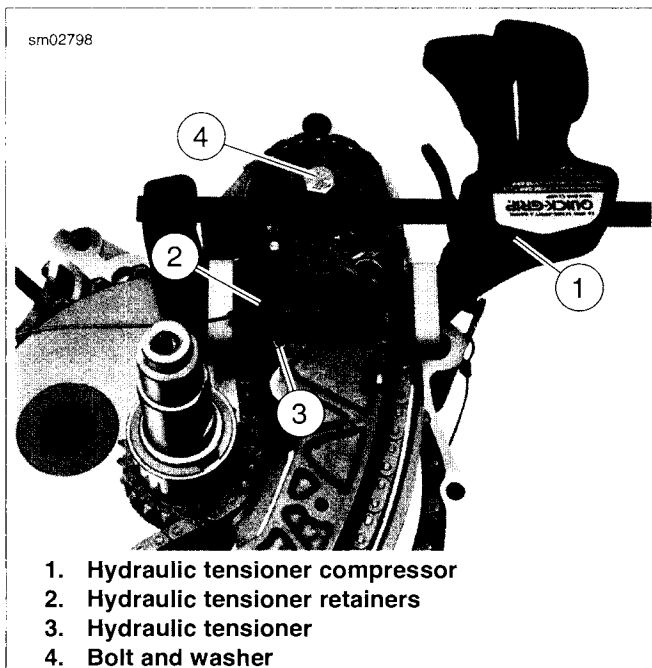
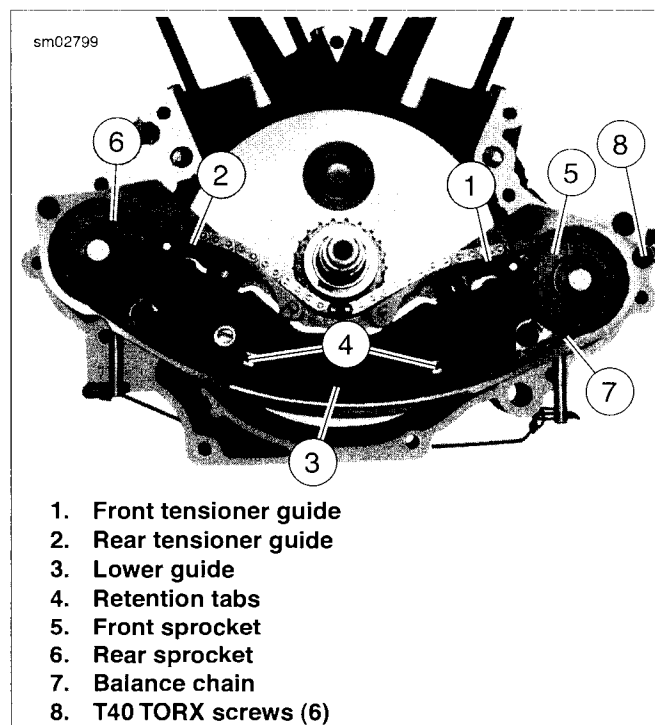

Figure 3-60. Hydraulic Tensioner Tools (Front Tensioner Shown)
Figure 3-61. Chain Tensioner Guides
2. See Figure 3-60. Compress both hydraulic tensioners.
- a. Clamp rubber tip of HYDRAULIC TENSIONER COMPRESSOR (Part No. HD-44063) (1) over balance chain and bottom of chain guide bracket assembly.
- c. Slide HYDRAULIC TENSIONER RETAINERS (Part No. HD-44408) over lip of tensioner (3).
- d. Release pressure on tool (1) and remove.
4. See Figure 3-61. Pry tab on front tensioner guide (1) clear of locking post. Use a small screwdriver to pry front chain tensioner guide upward from locking post. Repeat procedure on rear chain tensioner guide (2).
5. Pry lower chain tensioner guide (3) away from chain guide bracket assembly. Note the two retention tabs (4) on the lower chain tensioner guide which must be freed.
6. See Figure 3-60. Remove the bolts and washers (4) on the front and rear balance shafts.
7. See Figure 3-61. Remove front (5) and rear (6) sprockets from chain guide bracket assembly to release balance chain (7). Remove spacers from front and rear balance shafts.
8. Remove six T40 TORX screws (8) from balance shaft housing to free chain guide bracket assembly.
- a. Obtain chain tensioner guide (1) labeled "F" for front. With label facing away from chain guide bracket, install guide on post by pushing down until guide snaps into place.
- b. Obtain chain tensioner guide (2) labeled "R" for rear. With label facing away from chain guide bracket, install guide on post by pushing down until guide snaps into place.
- c. Install lower chain tensioner guide (3) by snapping both retention tabs (4) into place on chain guide bracket assembly.
15. See Figure 3-60. Release both hydraulic tensioners.
- c. Remove HYDRAULIC TENSIONER RETAINERS (Part No. HD-44408) (2) from lip of tensioner.